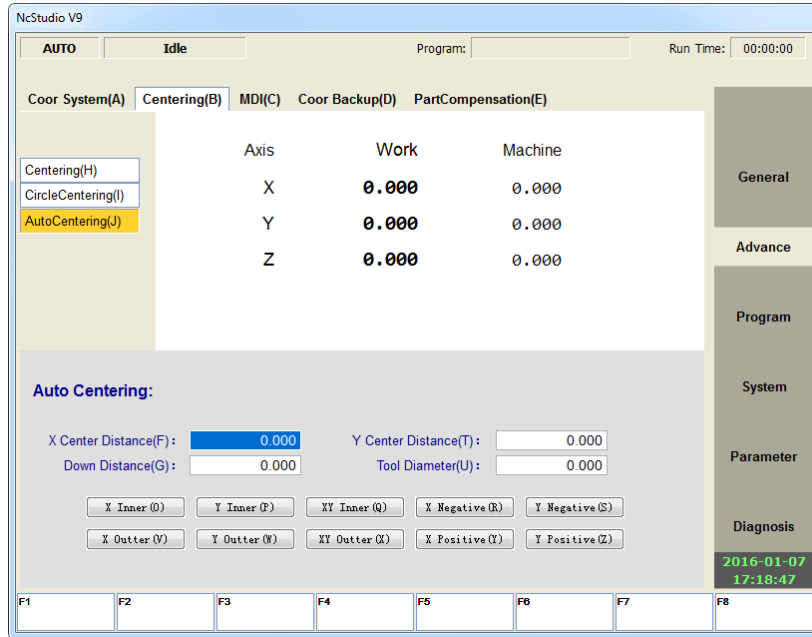

Fig. 3-34 Auto Centering
Press SF2 to enter functional area **Advance**, and press letter key B to enter interface **Centering**. Then press letter key J or directly click **AutoCentering (J)** to enter sub interface auto centering, as shown in Fig. 3-34.